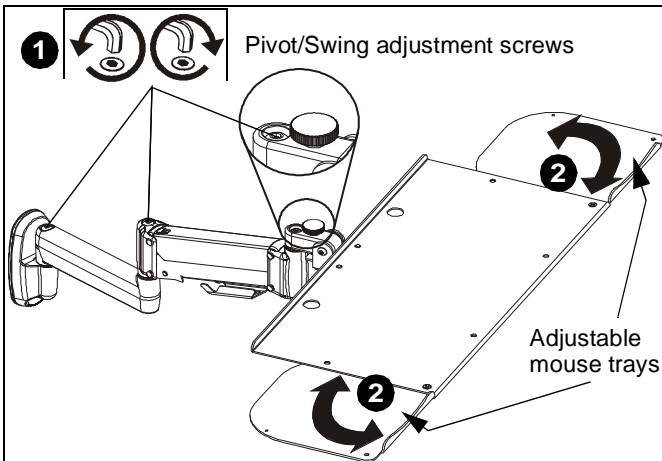

Figure 47
1. Slightly loosen or tighten the adjustment screw(s) as necessary, using the 3/16" hex key (Z). (See Figure 47)
2. Mouse trays slide open and closed on both sides of the tray for use by both right- and left-handed users. (See Figure 47)